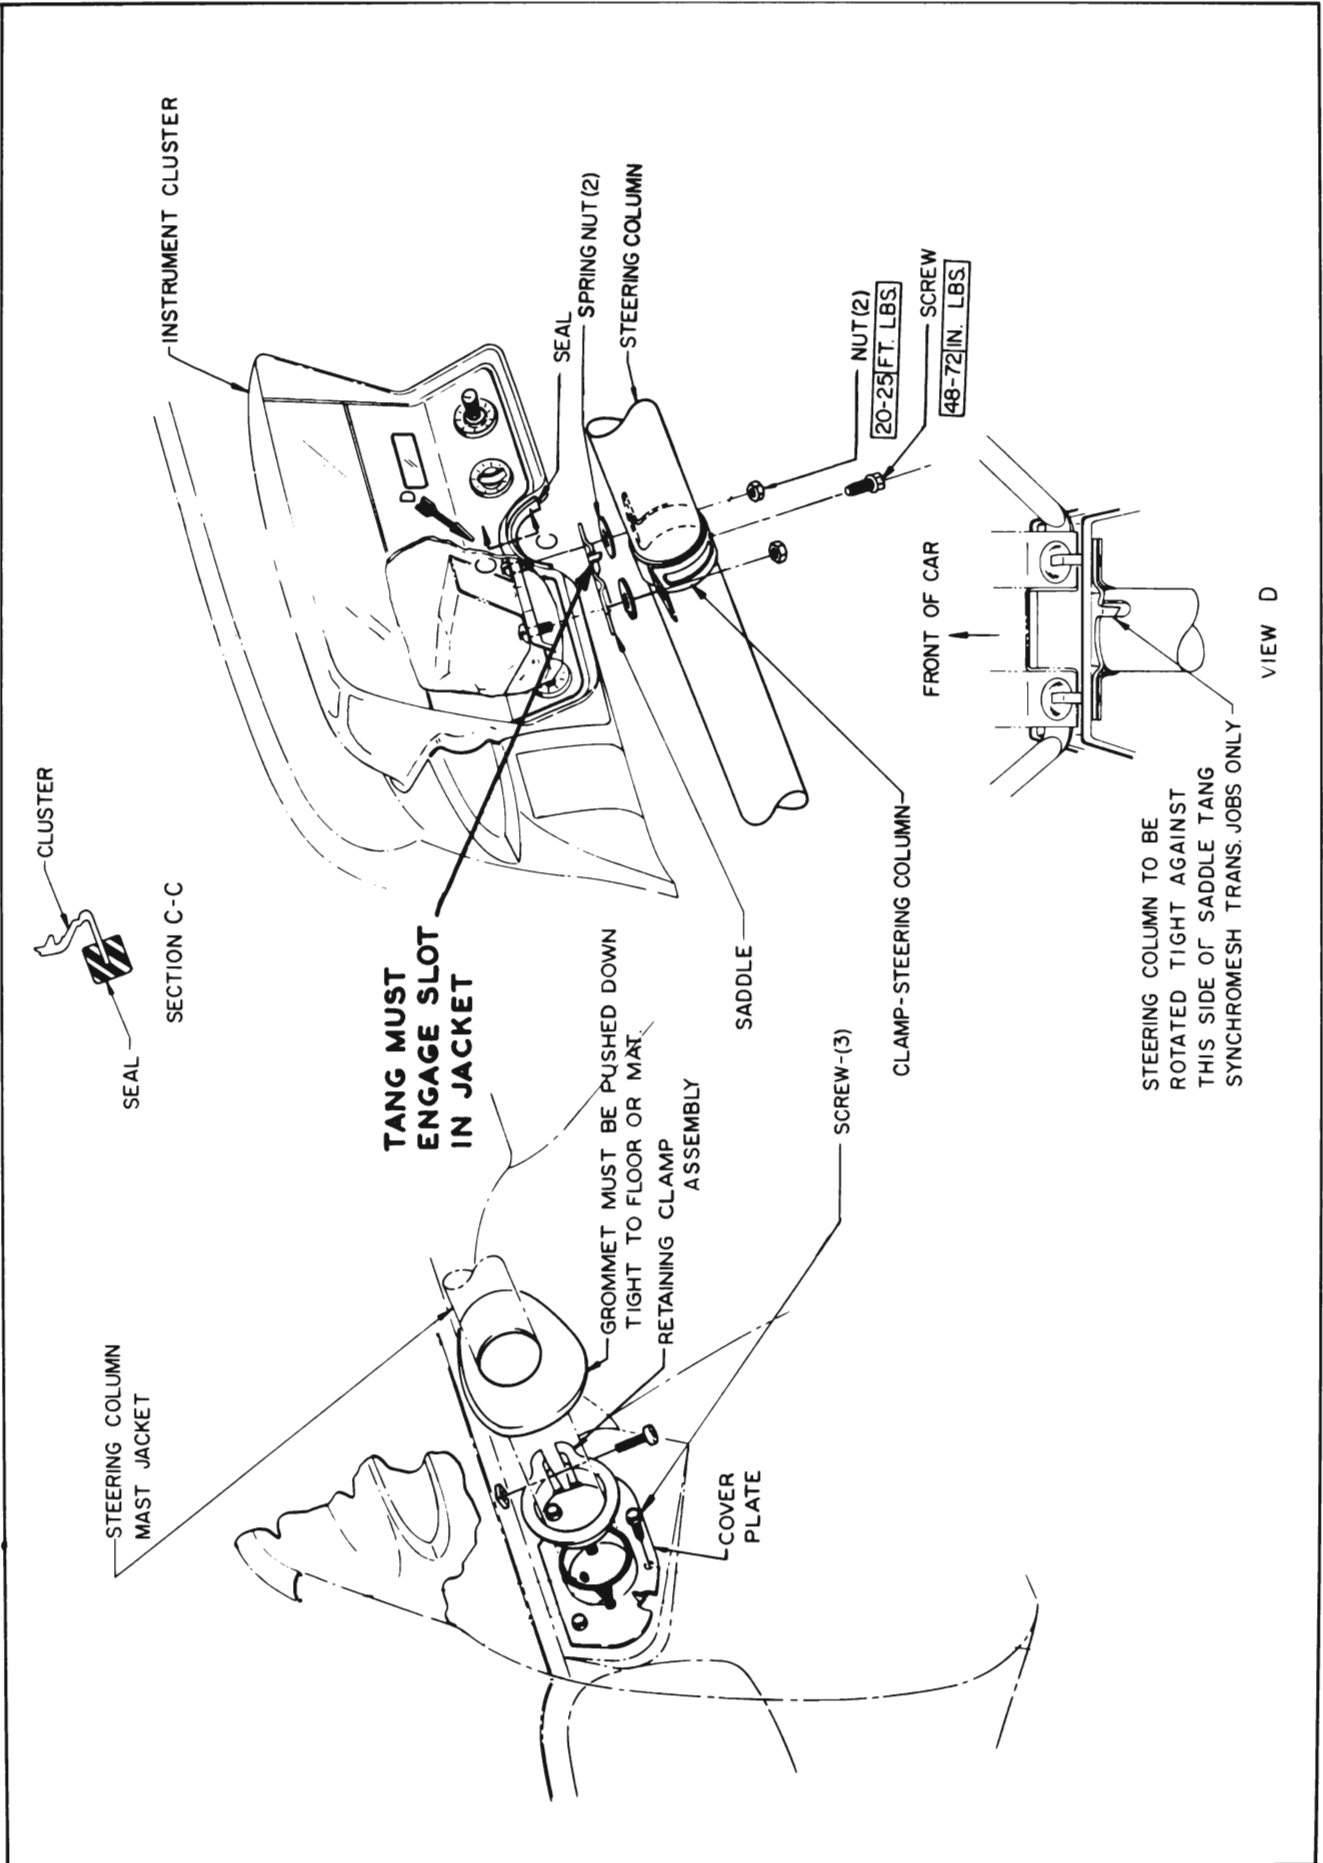

Figure 8-80—Mast Jacket Installation
3. Remove the screws that retain toe pan cover plate to cowl. See Figure 8-80.
4. Remove the nuts that retain mast jacket clamp. See Figure 8-80.
5. Place tang of mast jacket saddle in slot in jacket and tighten clamp nuts. See Figure 8-80.